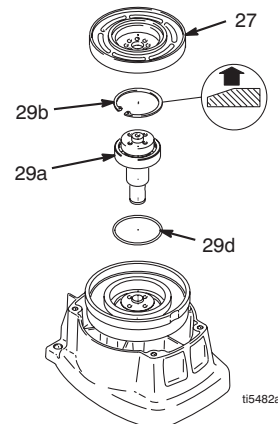

FIG. 6
6. FIG. 6. Remove retaining ring (29b).
- FIG. 6. Check o-ring (29d) and replace if missing or damaged.